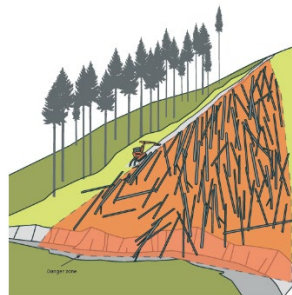

Figure 18: Danger zone from stem movement downslope
20.3.4 Figure 18 shows the danger zone.